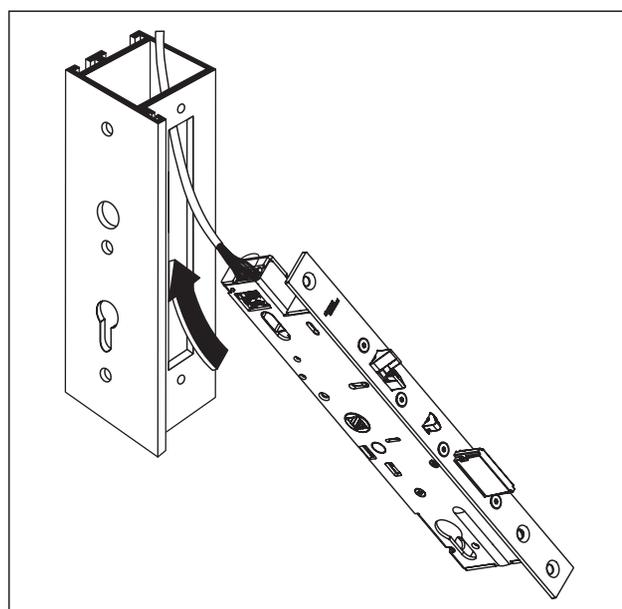

Fig. 16 Insert door lock
2. Insert the door lock into the door leaf recess (Fig. 16).